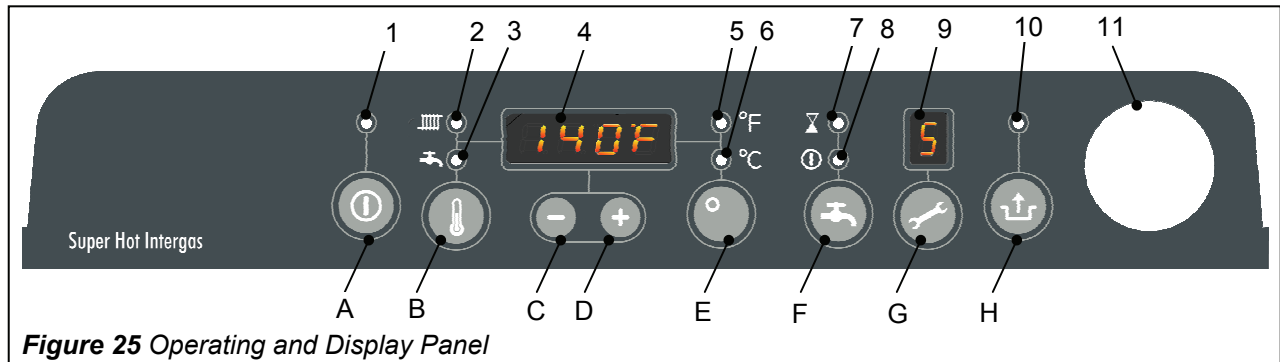

Figure 25 Operating and Display Panel
The operating and display panel is shown in Figure 25. The display panel has three primary modes of operation. These are:
Operating condition codes (shown in item 9 in Figure 25):
The code shown in item 9 in Figure 25 indicates the following operating condition:
The appliance is activated by means of the On/Off  button (Figure 25, item A) on the operating and display panel.
When the appliance is switched on, by pressing the On/Off  button, the green Power On/Off LED (Figure 25, item 1) will be on. When switching the appliance off, by pressing the On/Off  button, code  is shown on the service display (Figure 25, item 9) to indicate it is still powered.
When a lock out occurs, a figure is flashing on the service display (figure 25, item 9), the appliance can be restarted by pressing the Reset  button for 5 seconds. Check the possible cause of the fault listed in table 12 of section 6 to determine and resolve the problem before resetting the appliance.